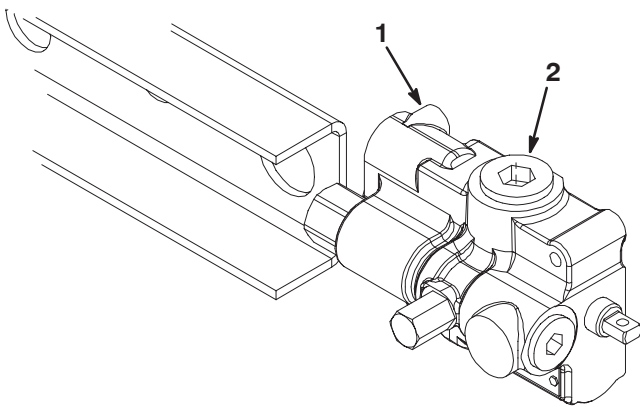

Figure 20
29. On the right frame channel, locate the deck lift valve assembly (Fig. 20).